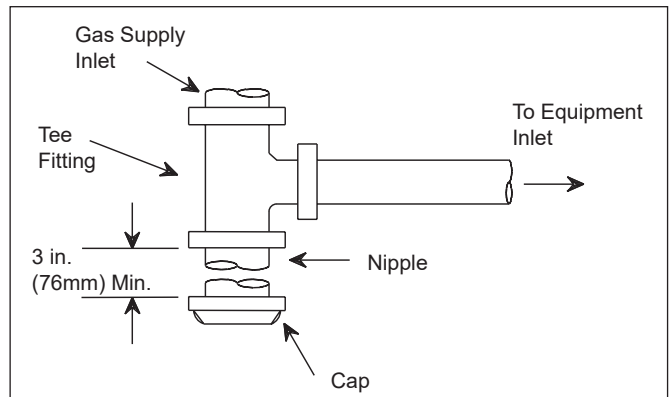

Figure 8. Typical design for a sediment trap/drip leg.
- A sediment trap (drip leg) must be installed ahead of the gas controls (**see Figure 8**). Fit the trap with a threaded cap which can be removed for cleaning.